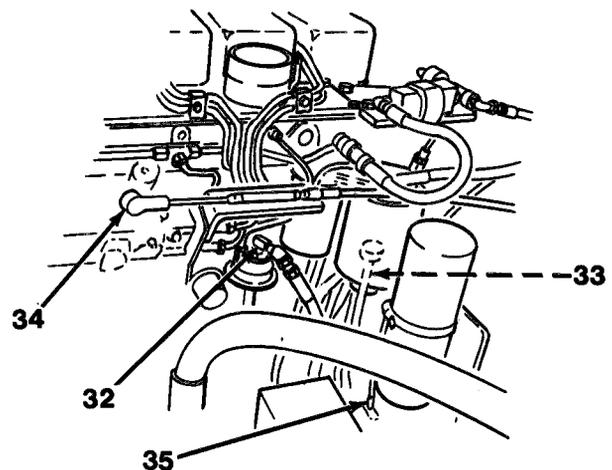

Figure 18-4
11. Disconnect fuel hoses (32) and (33) (refer to page 7-18). Disconnect injector pump throttle cable (34) and disconnect cold start cable (35, Figure 18-4).